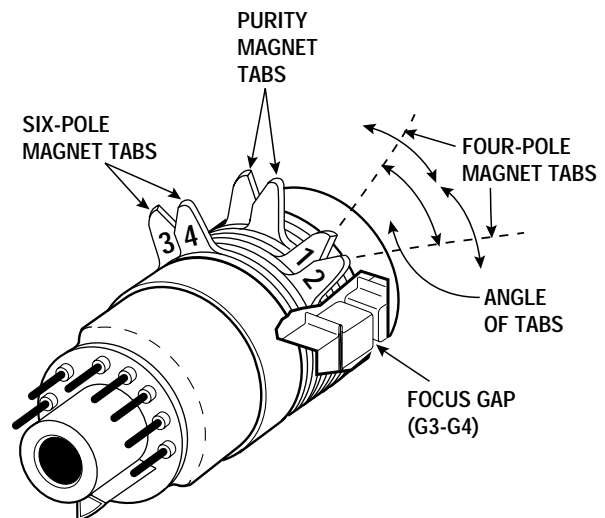
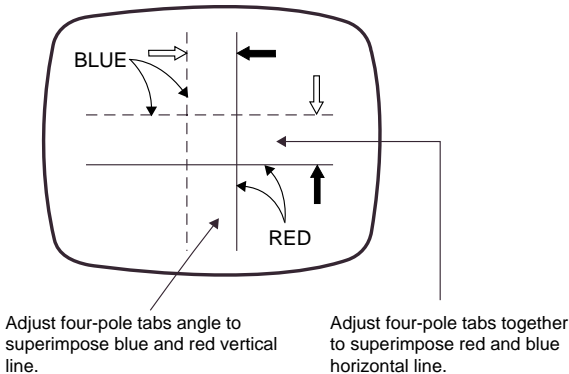

Figure 2. Purity and Convergence Magnets
Figure 4. Blue and Red Line Movement
3. Place the CPM on the tube neck aligning the center of the purity magnet tabs over center of Focus Gap (G3 & G4). See Figure 2.
3. Adjust the angle between the four-pole magnet tabs 1 and 2 (Figure 2), and superimpose the red and blue vertical lines in the center area of the picture screen. See Figure 4.
4. Keeping the tabs at the same angle, rotate them together to superimpose the blue and red horizontal lines in the center area of the picture screen. See Figure 4.